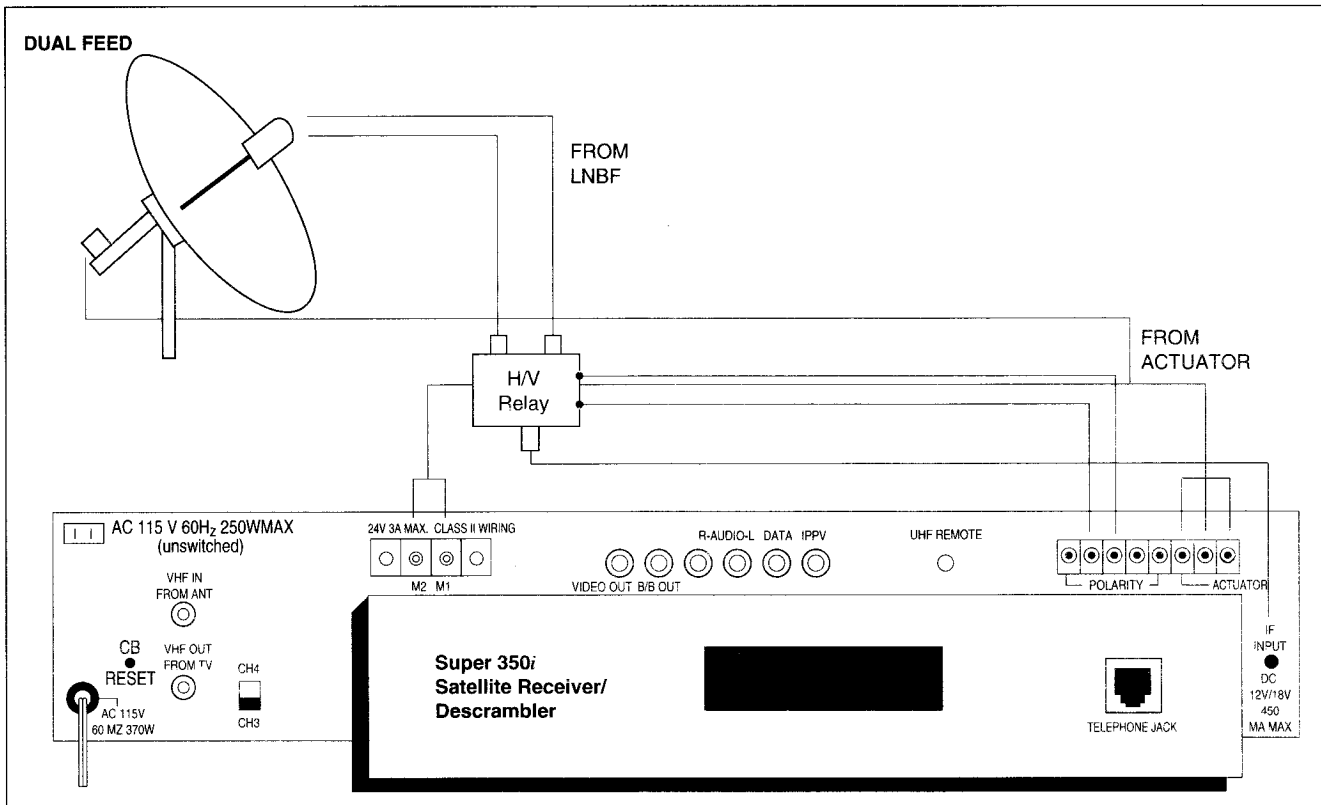

Fig. 3 Dual feed (C- and Ku-band) with H/V dual feed relay
3. If your system uses a dual-band LNB for C- and Ku-band, connect the LNB IF cables to a DC coaxial relay. Connect the coax output from the relay to the "IF INPUT" connector **B18**. Connect a 20-gauge wire from the H/V to the 5Vdc input on the relay. (See Figure 3.)